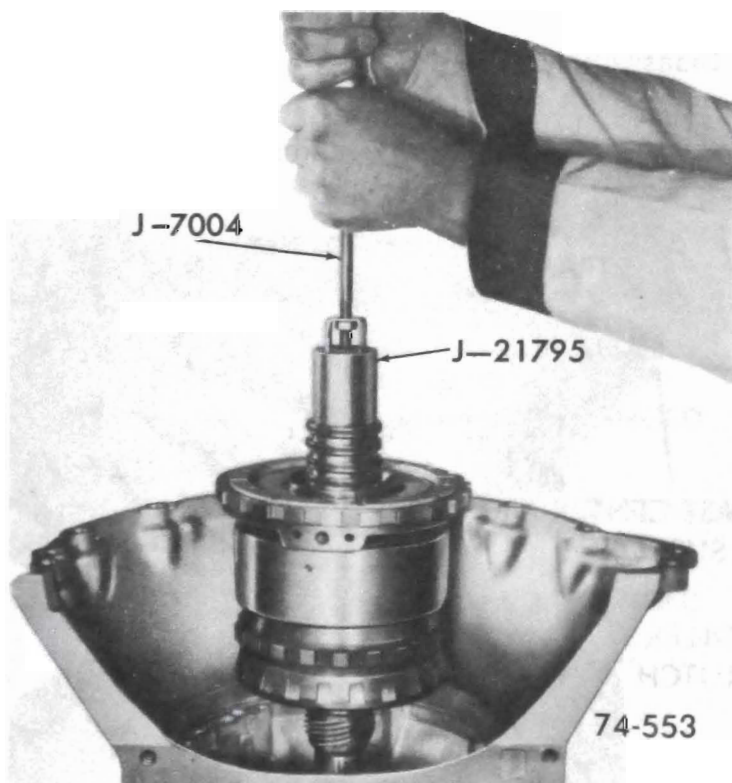

Figure 76-95
16. Remove entire gear unit assembly by lifting with J-21795 and J-7004 Slide Hammer. See Figure 76-95.